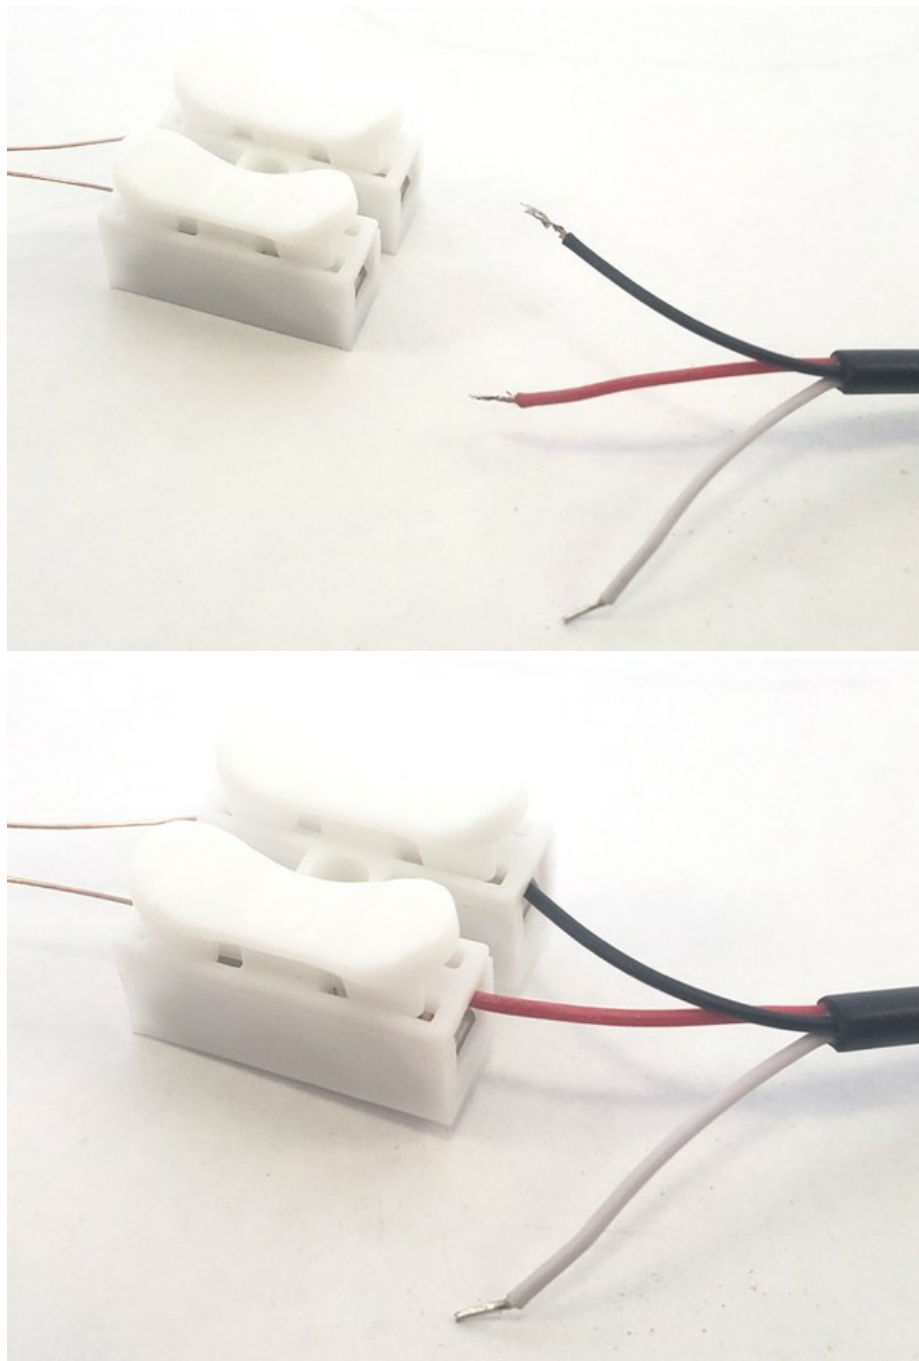

Figure 19. Top: audio wires before inserting into spring clips. Bottom: red and black wires inserted into spring clips, white wire left dangling.
18) Connect the loose wire ends of the audio cable to the other ends of the spring clips. There are *three* wires inside the audio cable: black (ground), red (left audio channel), and white (right audio channel). You need to connect the ground wire and *one* of the audio channels. Select the black wire and either the red or white wires, and connect them to the spring clips (Figure 19).